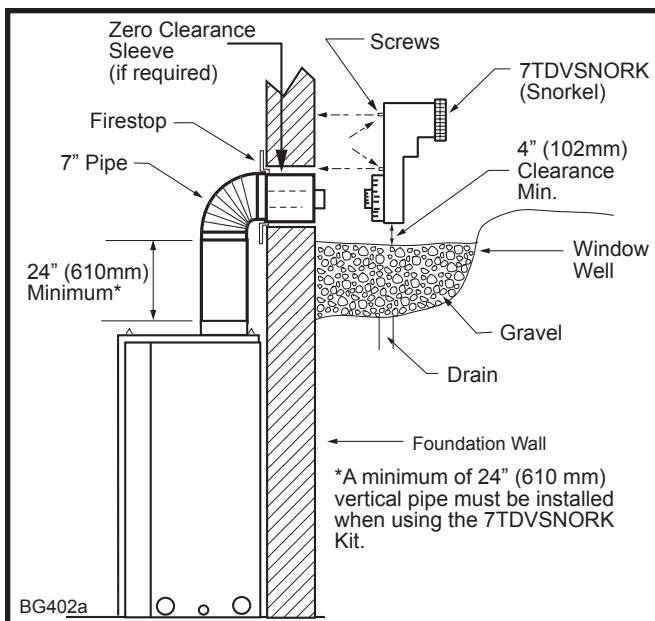

Fig. 37 Below grade installation.
2. Remove soil to a depth of approximately 16" (406mm) below base of snorkel. Install drain pipe. Install window well (not supplied). Refill hole with 12" (305 mm) of coarse gravel leaving a clearance of approximately 4" (102 mm) below snorkel. (Fig. 37)
7. Level the soil so as to maintain a 4" (102 mm) clearance below snorkel. (Fig. 37)